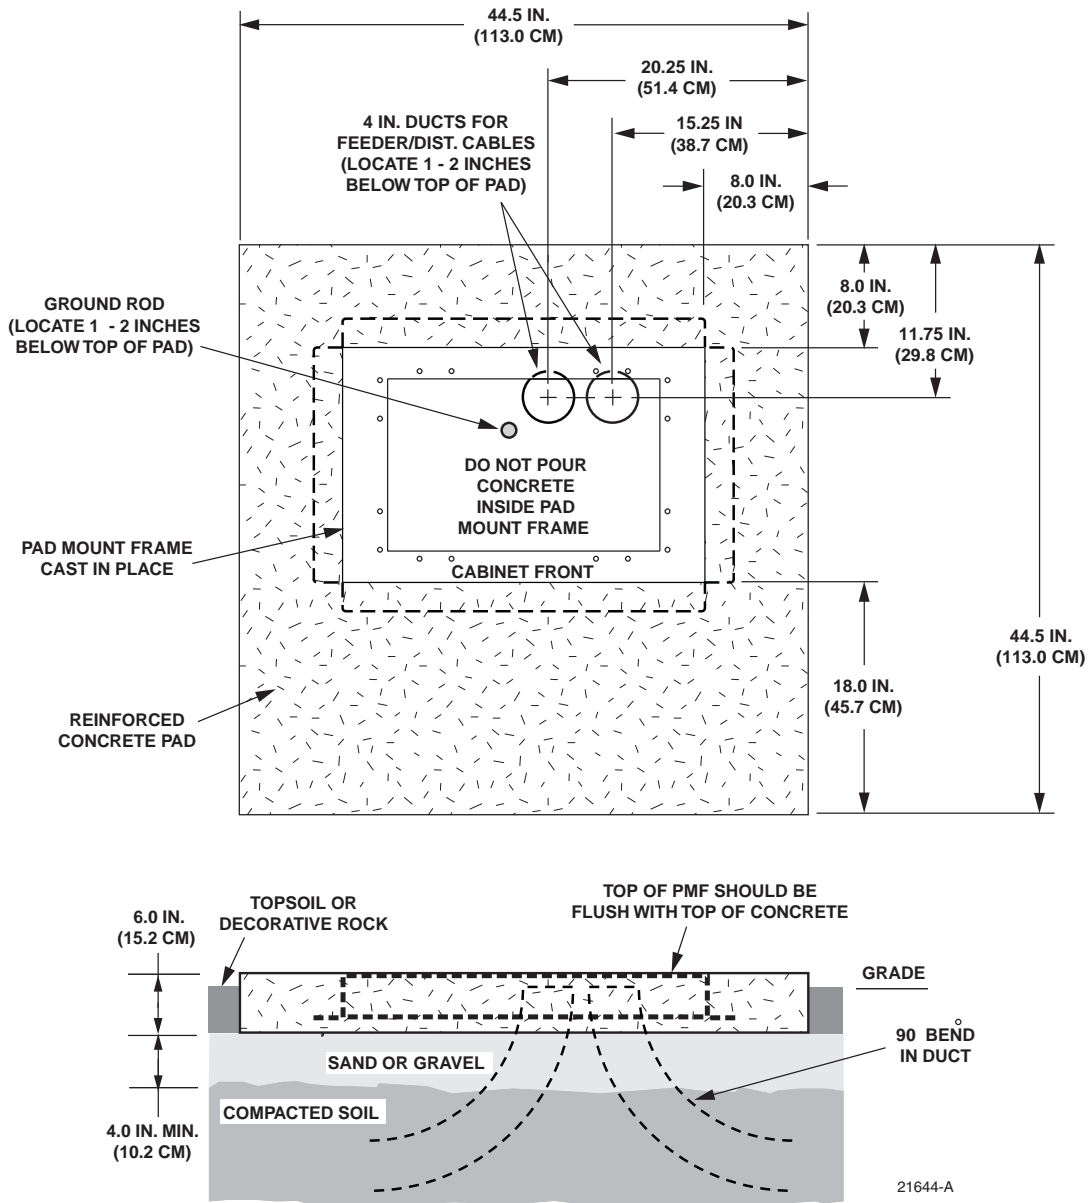

Figure 9. Constructing the Concrete Pad for the FDH 3000 288 Termination Cross-Connect Cabinet
Prepare a base for the concrete pad that meets all local code requirements. The base must have a footing of 4 to 6 inches (10.2 to 15.2 cm) of sand or gravel (per local practice) on firmly compacted soil. Refer to the construction diagram in Figure 9 for details.
2. Locate the PMF as shown in the construction diagram (see Figure 9). When installed, the top surface of the PMF must be flush and level with the top of the concrete pad.
Install a grounding system (not provided) that meets all local electrical codes. Check local codes for grounding system installation, use of clamps, wire size, and any other grounding requirements. Typically, #6 AWG copper wire is used for the ground wire. If the grounding system includes a ground rod, install the rod (see Figure 9) within the PMF opening at the indicated point. When installed, the top of the rod should be located 1 to 2 inches (2.54 to 5.08 cm) **below** the top of the finished concrete pad. Leave sufficient slack in the grounding wire to allow it to be routed into the cabinet after the cabinet is mounted on the pad.